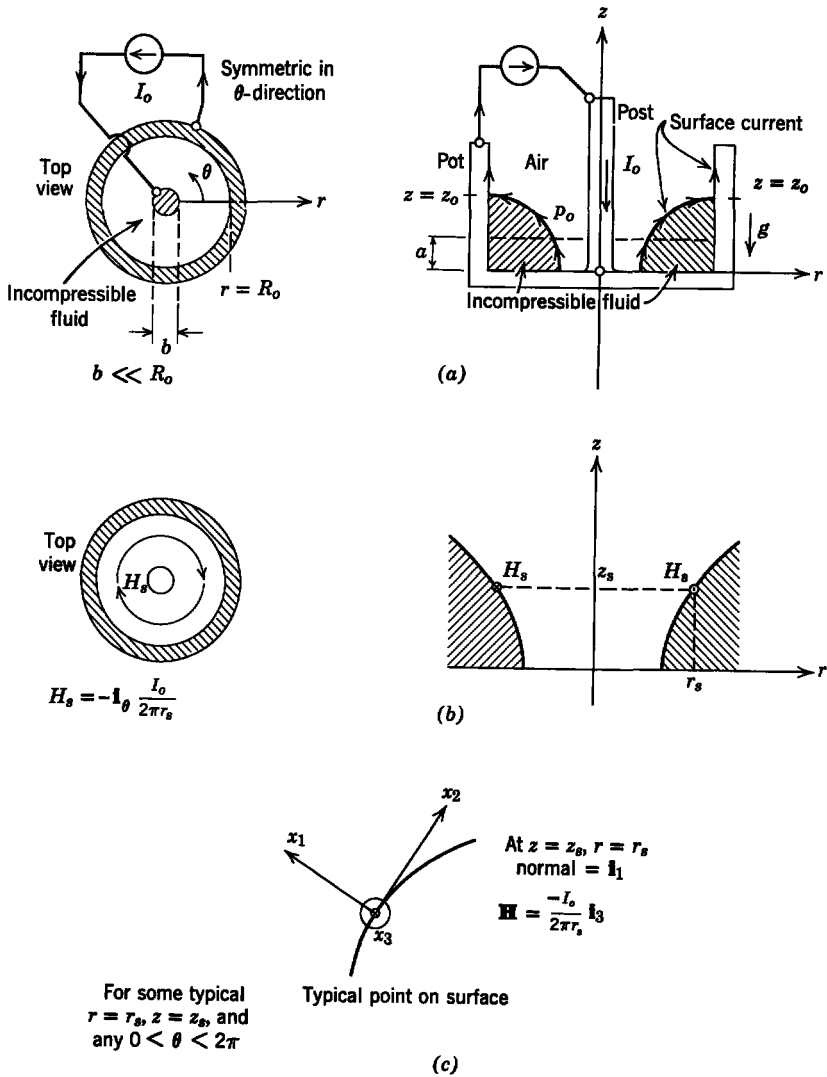

Fig. 12P.15
12.15*. A perfectly conducting, cylindrical pot contains a perfectly conducting fluid. A center coaxial post is placed inside the cylinder. A current source is attached between the center post and the outer wall of the pot to cause a current to flow on the perfectly conducting surfaces, as shown in Fig. 12P.15a. When the current source is turned off, the fluid comes to rest with its surface at $x = a$. When the current source is turned on, the magnetic field pressure (normal surface traction) causes the surface to deform (e.g. as shown).